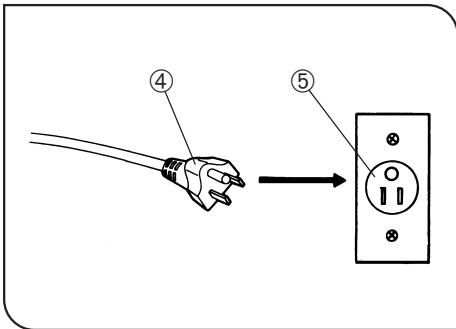

Fig. 11
- ▲ Connect the power cord to a 3-conductor power outlet that is grounded. If the grounding terminal of the power outlet is not grounded properly, Olympus can no longer warrant the electrical safety performance of the equipment. (Fig. 11)
2. Insert the power cord plug ④ into the wall outlet ⑤ securely (Fig. 11).